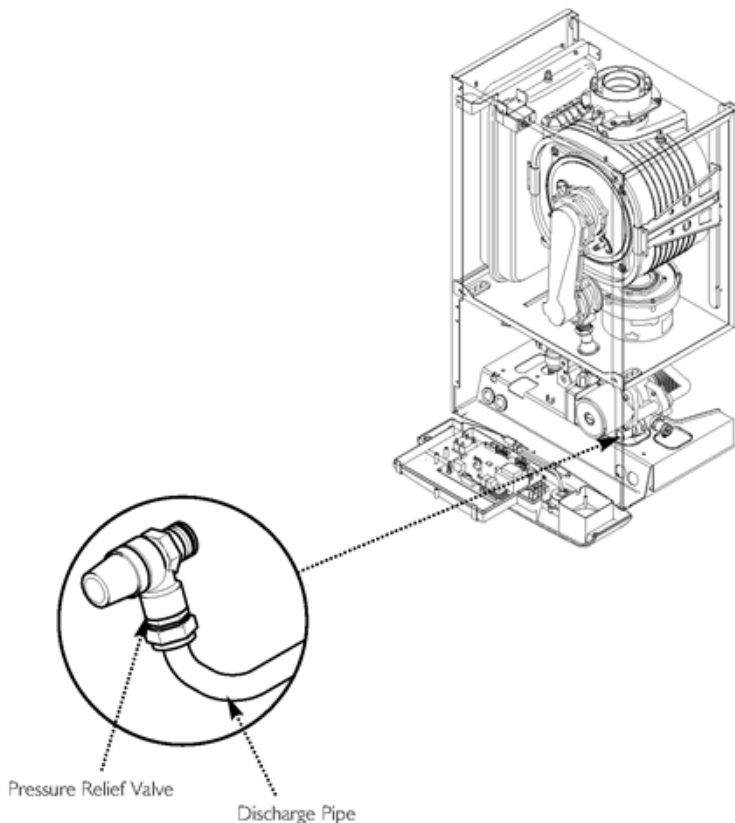

Fig. 6
6.7 Safety Pressure Relief Valve (Fig. 6)